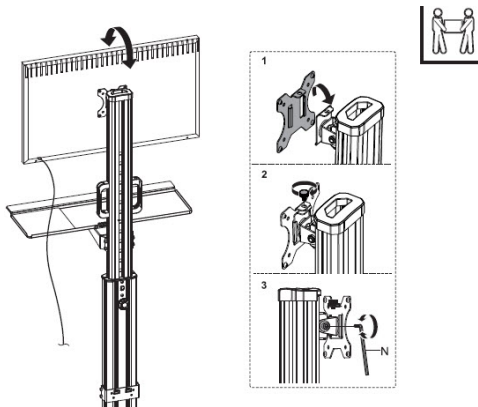

Figure 10
1. (Complete this step with two people) Lift the **Monitor Assembly** and slide the **VESA Plate** down into the tracks on the **VESA Mount (H)** to align the screw hole located on the top of the **VESA Plate** with the hole located on the top of the **VESA Mount (H)**. (Figure 10)
2. Insert the **Thumbscrew**, removed in step one of **Remove the VESA Plate from the VESA Mount (H)**, through the screw hole located on the top of the **VESA Plate** and into the **VESA Mount (H)**.
3. Insert the **Hex Screw**, removed in step one of **Attach the VESA Mount (H)**, into the screw hole located on the left side of the **VESA Plate** and into the **VESA Mount (H)** then tighten, using the **6 mm Hex Key (N)**.